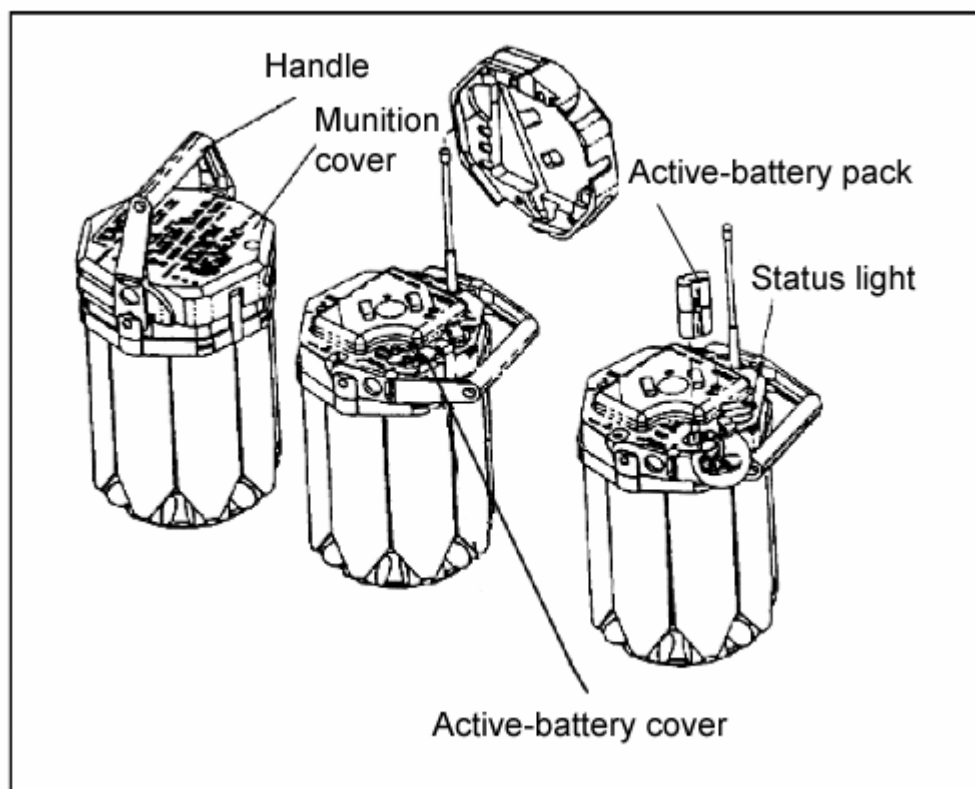

Figure 052-192-1225-1
2. Remove the munition cover (Figure 052-192-1225-1).